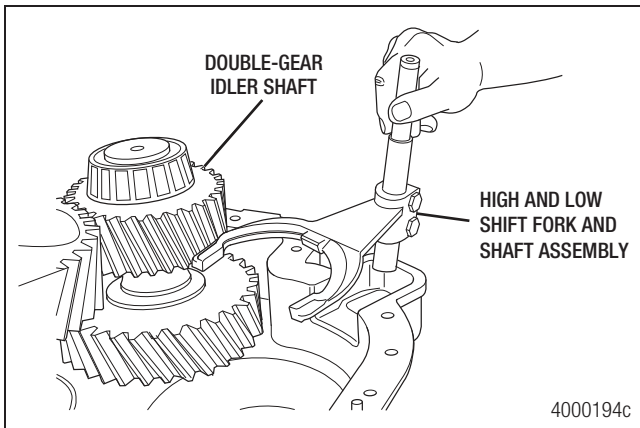

Figure 5.22
- Remove the high and low shift fork, shift shaft, and clutch collar from the front case. Figure 5.22.